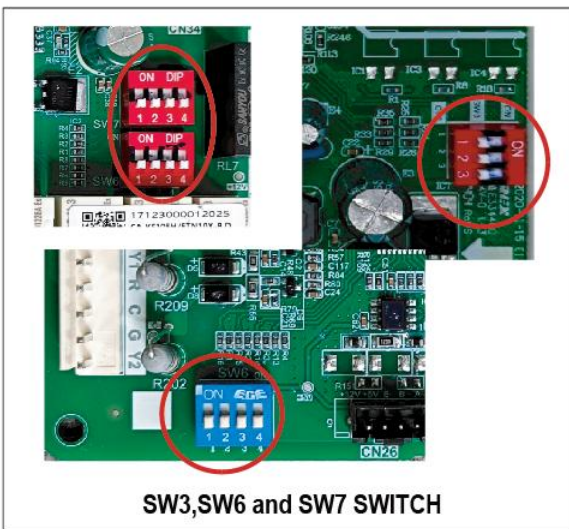

Figure 3
- Set and check SW3,SW6 and SW7 switches code. Refer to Table 1 or the wiring diagram for information (Refer to Figure 3: SW3,SW6 and SW7 circled in red or blue.)